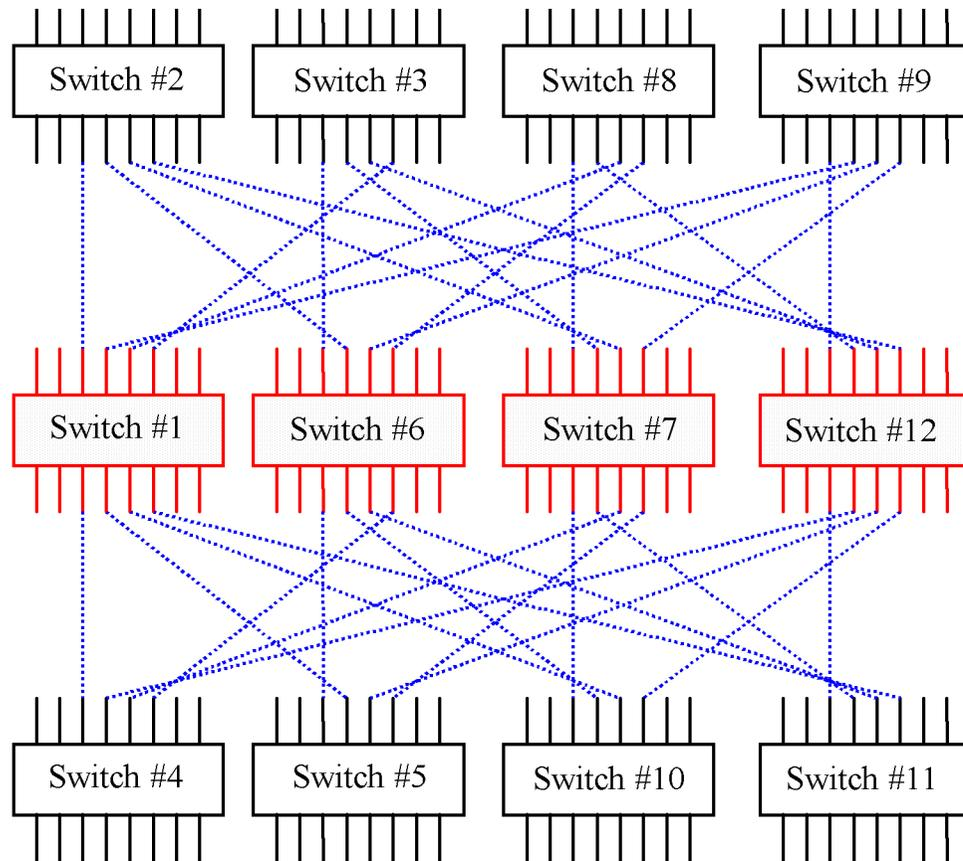

Figure 10. 128-Port High Connectivity Configuration
**NOTE:** Figure 10 is a logical representation of the switches in this configuration. The following tables list the physical ISL cables with the source and destination port used for the 128-Port high connectivity configuration.